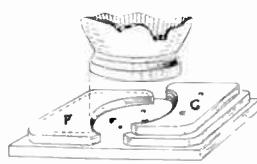

Fig. 3—Globe fixing
It will be understood that in Fig. 3 a broken section only of the glass globe is given with two pieces (F) shown fixed and one piece (G) on the extreme top. The woodwork can all be painted up artistically in art shades of paint or enamel. (209)